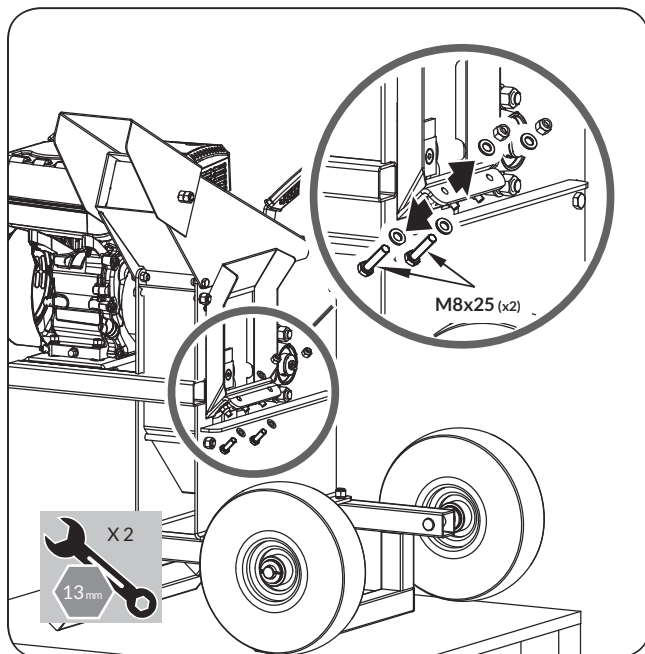

Figure 6
2. Remove the M8X25 bolts, flat washers, and nuts from the machine where the feed hopper will be attached. Set aside for later use. (See **Figure 6**)